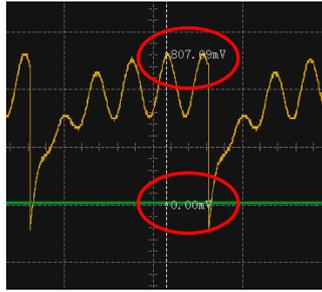

Figure 3-25
**Current Sample Point:** As Figure 3-25 shows, in the wave window, move mouse to the target point of the waveform, the voltage of this point will show on the screen.